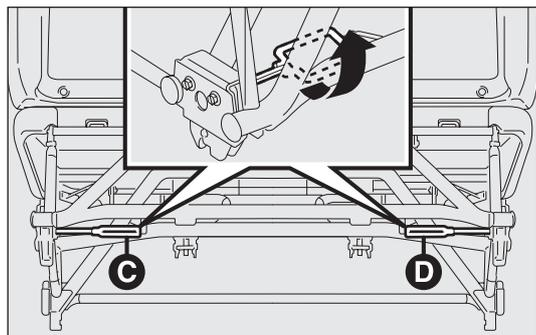

fig. 36
- from the stacked position, operate levers C and D-fig. 36 , turning them forward (as specified on the adhesive plate located on the lower crossmember);